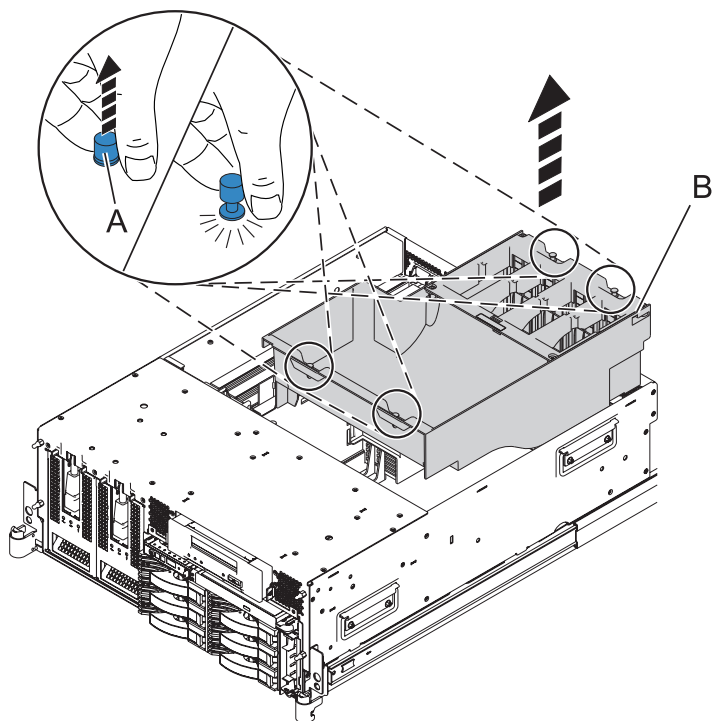

Figure 21. Removing the air baffle
10. Remove the air baffle by lifting each of the four locking tabs (A) and lifting the baffle (B) out of the system as shown in Figure 21.